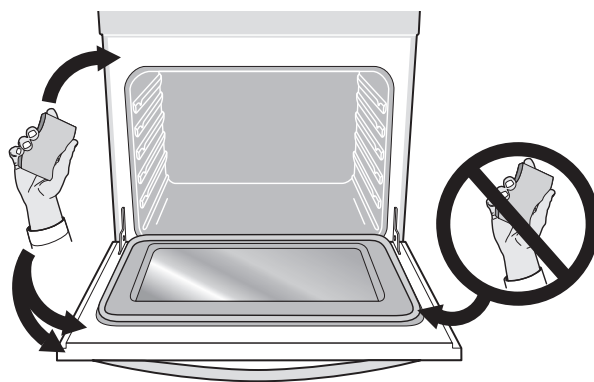

Figure 24: Areas of oven door to clean with caution
- Do not clean the oven door gasket (Figure 24). Do not use any cleaning materials on the oven door gasket. Doing so may damage the gasket. The woven material of the oven door is essential for a good seal. Care should be taken not to rub, damage or remove the door gasket.